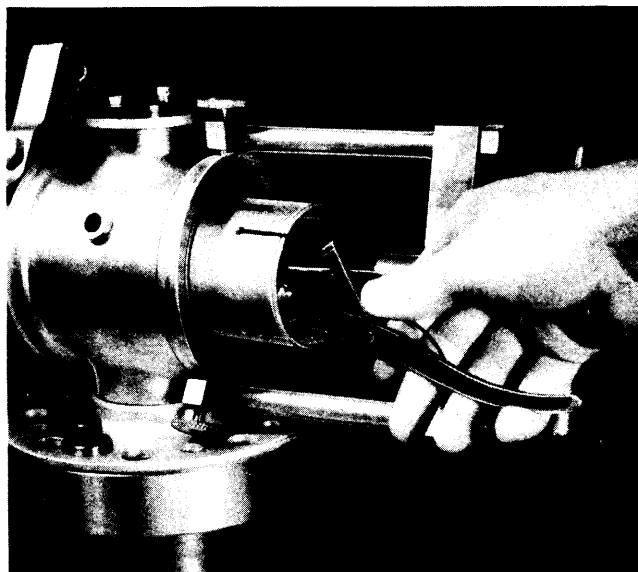
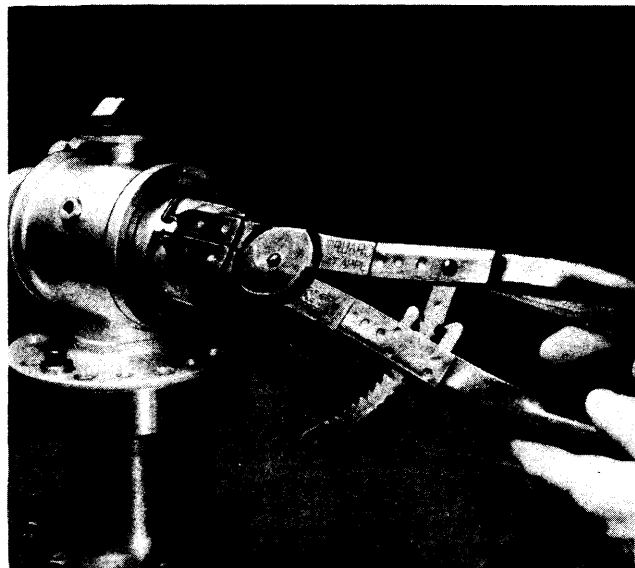
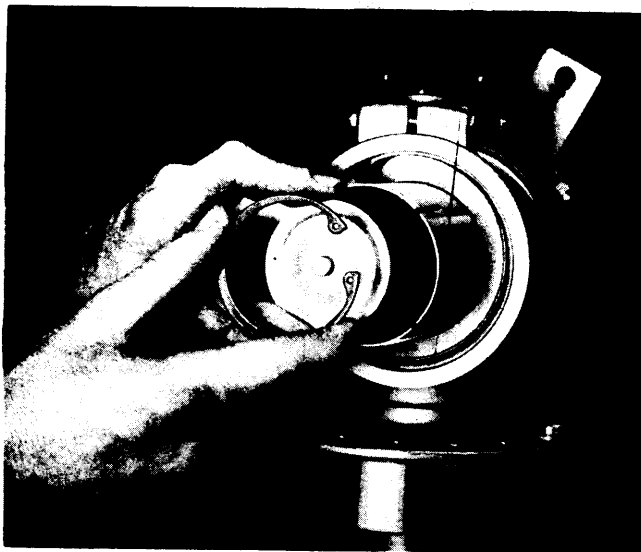

Figure 14. Removing Flange Seal Plate
Figure 16. Removing Retainer Snap Ring
Figure 23. Installing Flange Seal Plate
b. FLANGE SEAL PLATE. (See figure 14.)
(1) Use snap ring pliers No. 5 to remove snap ring, then lift out flange seal plate with long nose pliers.
(2) Repeat same operations for No. 2 flange.
i. RETAINER SNAP RING (See figure 16.)
(1) Insert a 7/16" socket wrench through flange No. 2. Remove nut through flange No. 2 and locking bolt through flange No. 1. Insert preload tool into flange No. 1. Hold inner tool and turn outer T handle anticlockwise until blade flanges become slightly loose. This will relieve the load on the snap rings. Remove the tool. Use snap ring pliers to remove snap ring from recessed groove in hub bore.
e. FLANGE PLATE. (See figure 23.)
(1) Coat the flange sealing ring with heavy grease and install it in the inner end of the flange bore. If required, stretch the seal so that its outer circumference fits against the bore all around.
(2) Install the flange plate against the sealing ring, button outward, and attach the flange seal plate assembly tool. Compress the sealing ring sufficiently for the flange plate to clear the snap ring groove and insert the snap ring in the flange with the opening of the snap ring placed on the leading side of the flange. (See figure 14.)
(3) Likewise, install the seal and plate in flange number two.